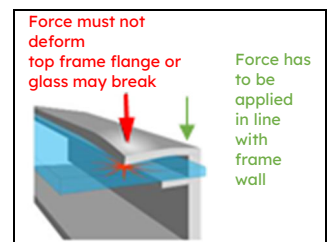

Figure 1a: Clamp Force Locations
- 2) **Pressure Clamps or Clips:** Mount the module with the opposite clips on the longer and/or shorter side of the frame of the module. The clips allowed location should be according to Appendix. Installers should ensure the clamps are of sufficient strength to allow for the maximum design pressure of the module. Clips and clamps are not provided by Maxeon. Clamps must apply force collinear with the 'wall' of the module frame and not only to the top flange. Clamps shall not apply excessive force to the top frame, warp the top flange, or contact the glass- these practices void the module warranty and risk glass breakage. Figure 1a illustrates locations for top frame clamp force. Avoid clamping within 50mm of module corners to reduce risk of frame corner deflection and glass breakage. When clamping to the module frame, torque should never exceed 15 N.m to reduce chances of frame deformation, if the clamp datasheets show a specific torque value which is lower than 15 Nm the installer should follow the torque value which ever is more stringent. A calibrated torque wrench must be used. Mounting systems should be evaluated for compatibility before installing especially when the system is not using Clamps or clips. Please contact Maxeon for the approval of the use of non-standard pressure clamps or clips where torque values are higher than otherwise stated.